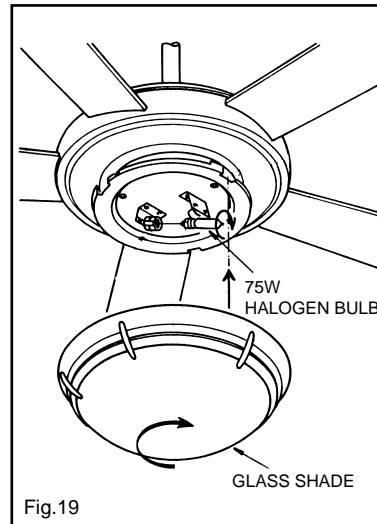

Fig.19
**Step 1.** Install 2 × 75W halogen bulbs included. (Fig 19)
**Step 2.** Raise glass shade up against bottom of fan housing and secure it to fan by turning glass clockwise until snug. DO NOT OVERTIGHTEN. (Fig 19)